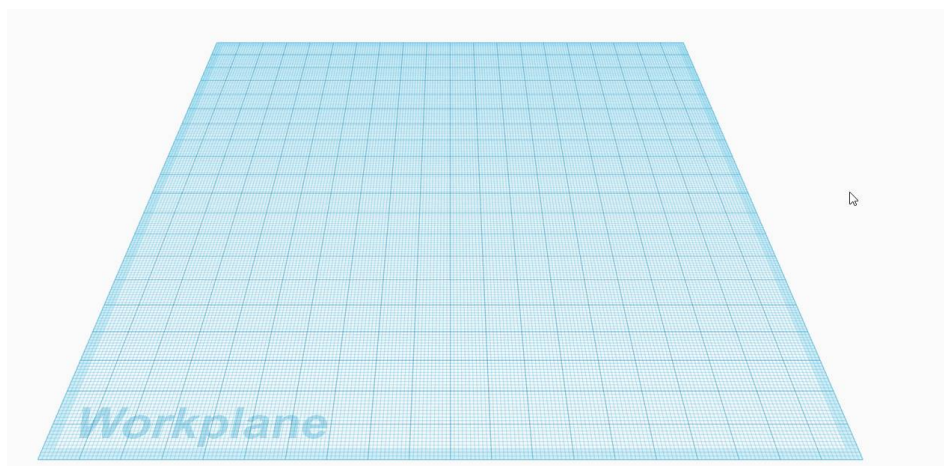

Figure 15.2: Tinkercad Workplane
- Click **Create new design** under the 3D Designs tab to open a blank 3D workplane (Figure 15.2).